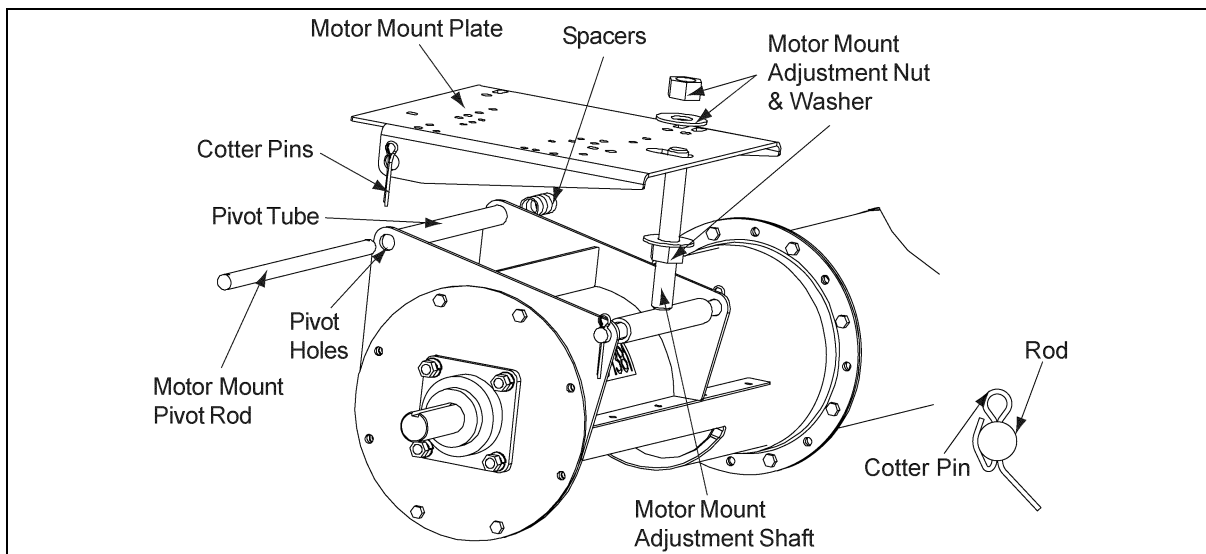

**Figure 4D**
- B. Insert Pivot Rod through the Tube plates and Motor Mount Adjuster. Secure in place with two (2) 3/16" x 2" cotter pins. (*See Figure 4D*).